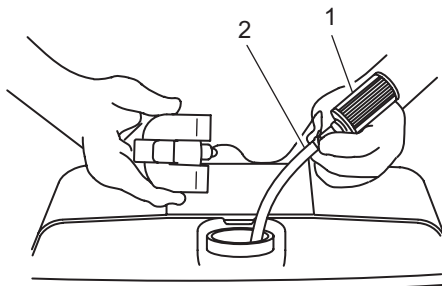

Figure 33. Fuel Filter
1. Clean the fuel filter (Figure 33) every 3 months or 200 hours.
4. Pull fuel supply line "1" off fuel supply line "2" (Figure 33) and insert a new filter.